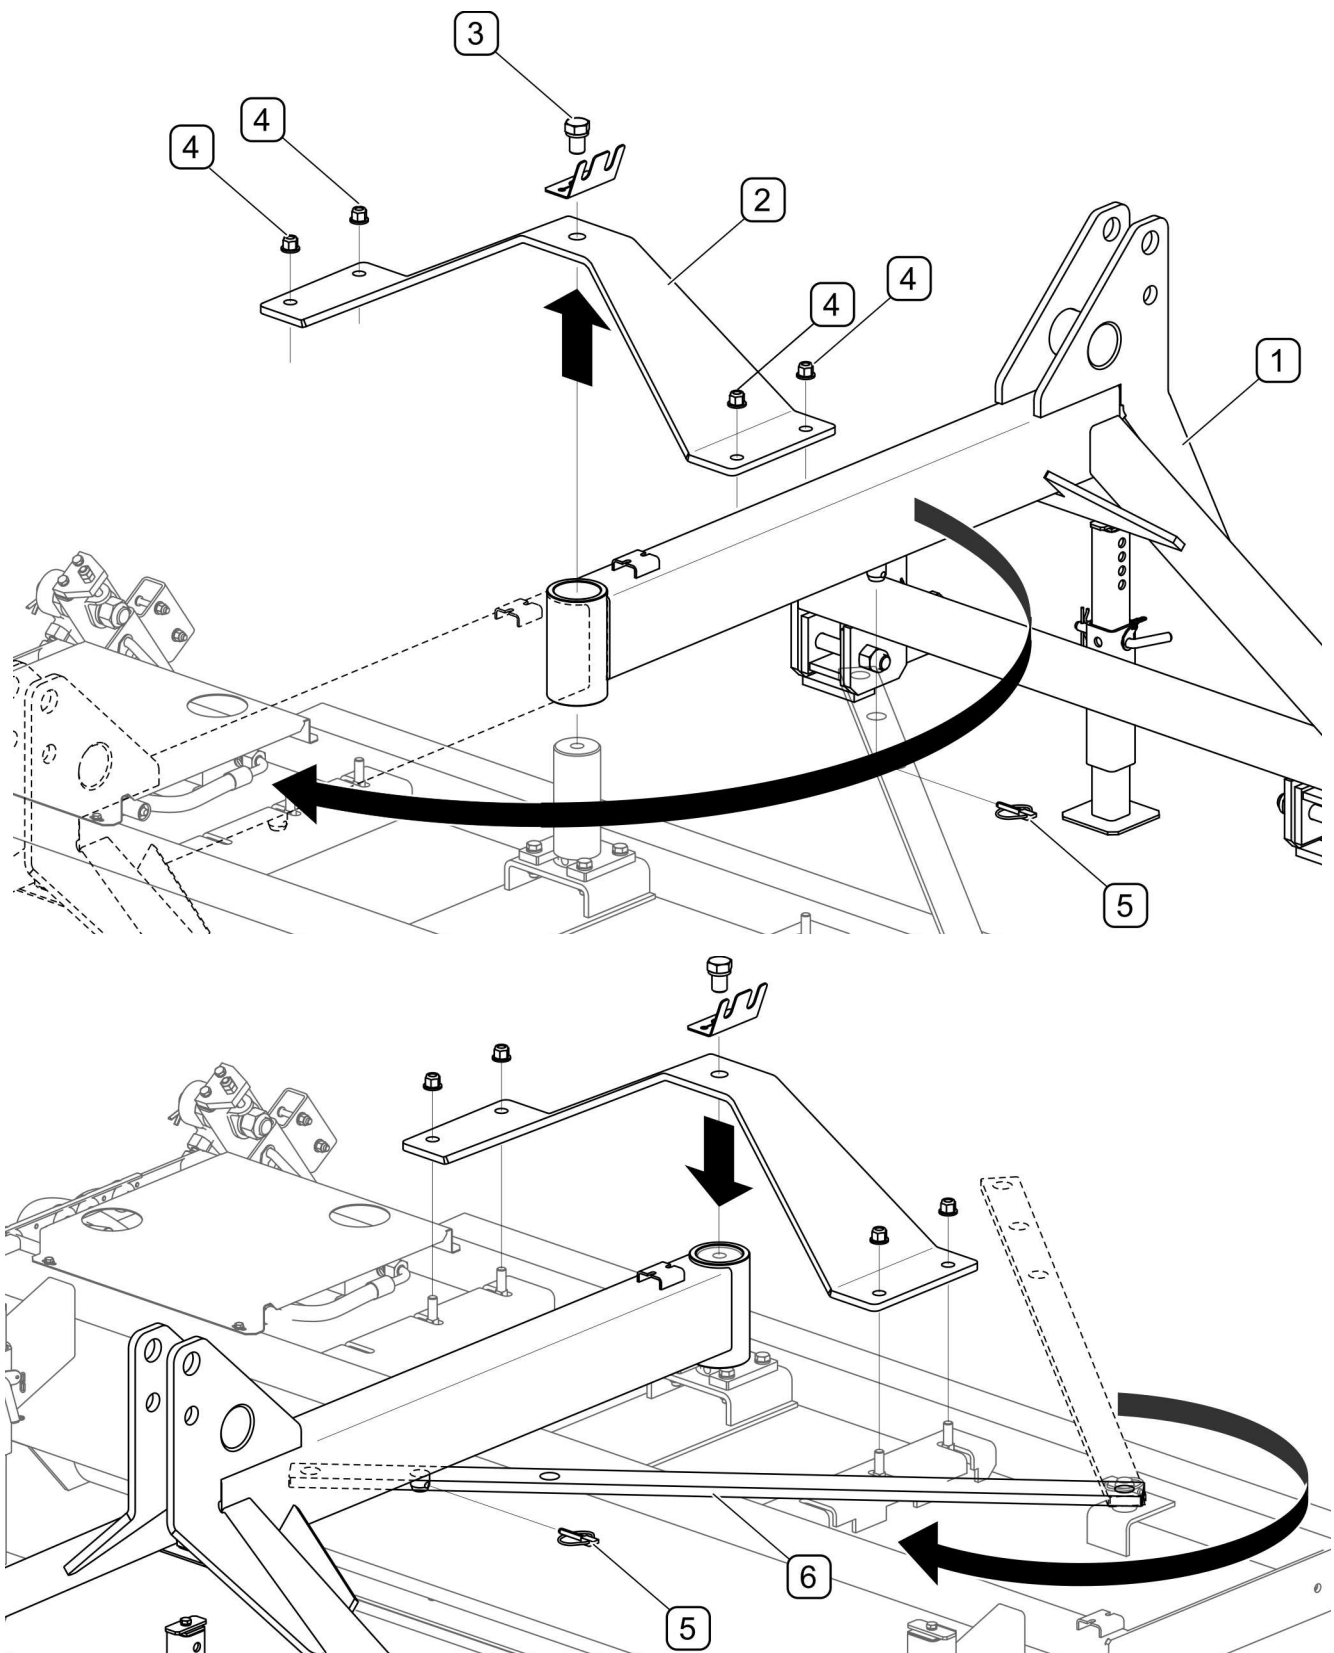

FIG. 4.9 **Setting the sweeper for operation in front of the carrying vehicle.**
To adapt the sweeper for operation in front of the carrying vehicle (FIG. 4.9), remove the cotter pin (5) which locks the flat bar (6), unscrew the main pivot bolt (3), unscrew the four nuts (4) mounting the bracket (2) to main pivot and rotate the entire suspension frame (1) by 180° and then screw the bracket (2). Turn the flat bar (6), place on the pivot of the suspension frame lock with cotter pin (5). For the sweepers equipped with the sprinkler system remove nuts (4) and remove the water tank with brackets before removing the bracket (2). Re-attach the water tank after rotating the suspension frame (1) and tightening the bracket (2) using bolt (3).